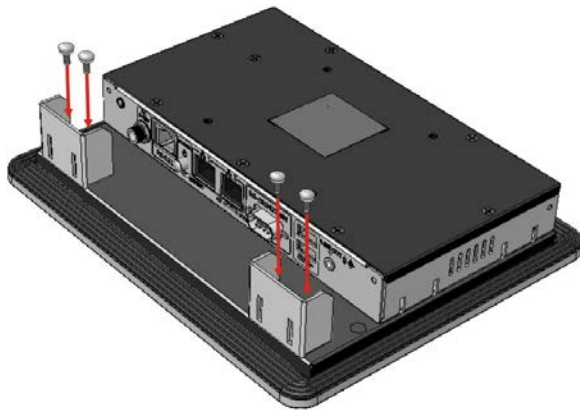

Figure 3-22: PPC-F10B-BT Mounting Bracket Installation
Step 1: [PPC-F10B-BT Only] Install two mounting brackets onto the rear panel of the PPC-F10B-BT (Figure 3-22).
Step 1: [PPC-F10B-BT Only] Install two mounting brackets onto the rear panel of the PPC-F10B-BT (**Figure 3-22**).